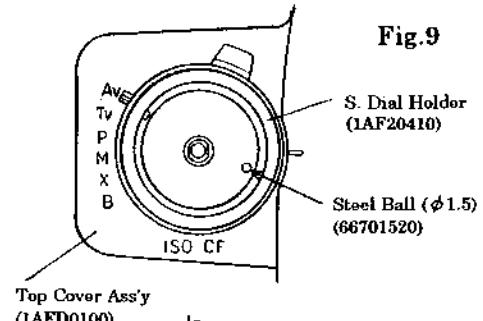

Fig.9
- 5) Install the S. Dial Holder in the position as shown in Fig. 9.